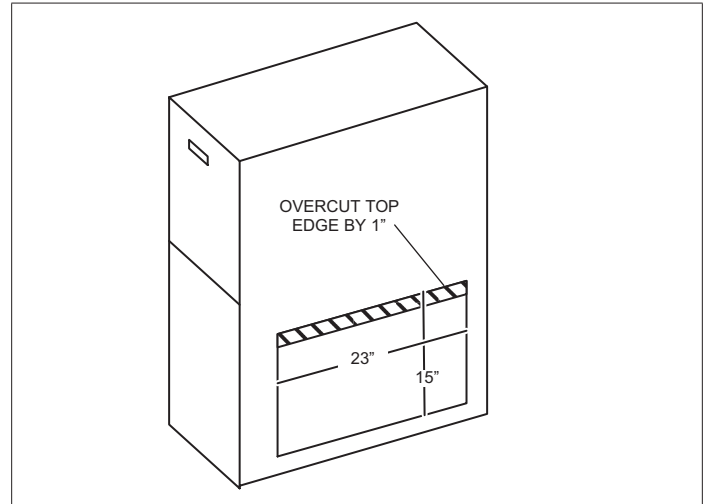
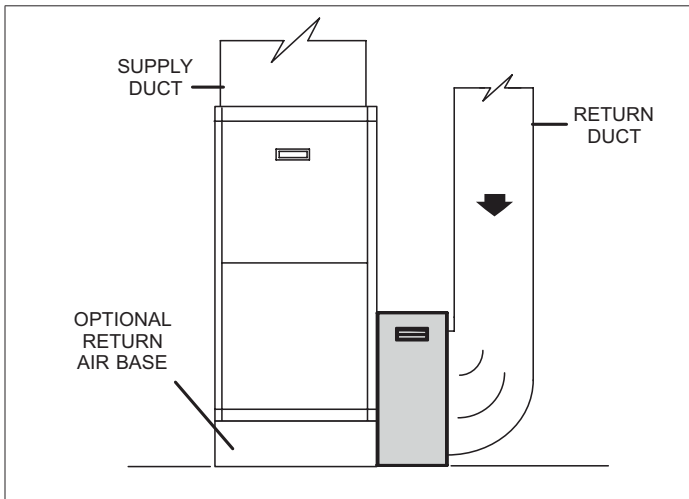

Figure 10. Up-flow Furnace (5 ton, Option 2)
Figure 9. Up-flow Furnace (5 ton, Option 1)
2. Align the cabinet opening with the opening on the furnace. For 5 ton application, use option 1 or 2 (see Figure 9 on page 5 and Figure 10 on page 5).